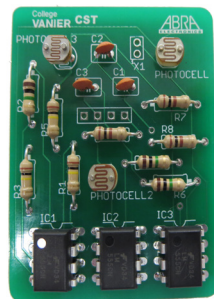

Fig.6
6. Install Photocell 1, 2 and 3 (Photo340) as per fig.6.